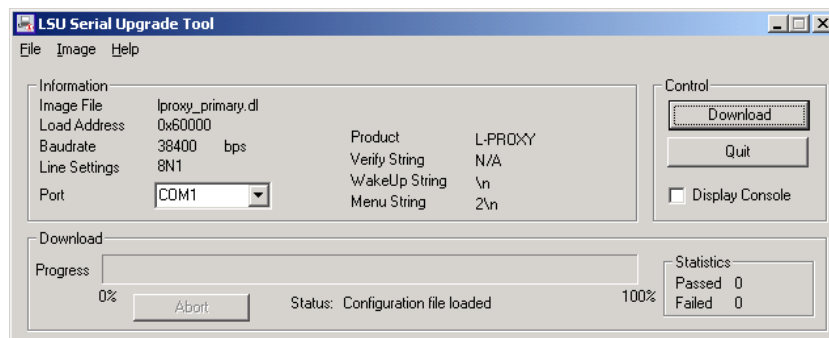

Figure 118: LSU Serial Upgrade Tool in Idle Mode
1. Double click on the \*.dlc file that comes with the new firmware package. This should start the LSU Tool and load the firmware image referenced in the dlc file. Please note that the dlc file and the dl file must be stored in the same folder. The start window of the LSU tool is shown in Figure 118.